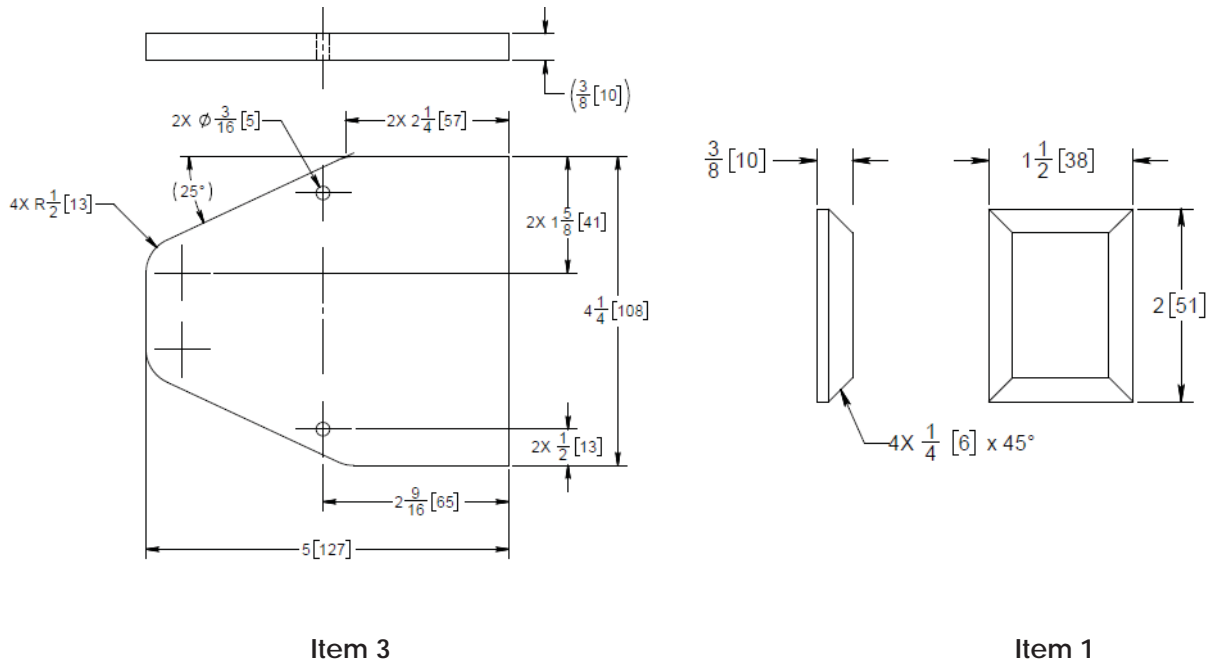

Figure 7: Details for item 1 and item 3
1. Refer to Figure 7 for details of item 1 and item 3.